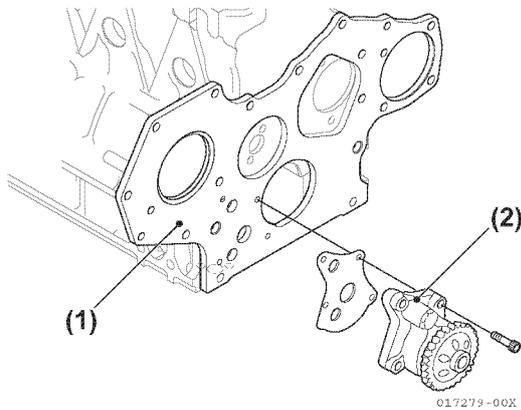

**Figure 5-46**
38. Remove the oil pan and spacer (**Figure 5-46**).
- 39. Remove the lubricating oil inlet line and gasket (Figure 5-46).